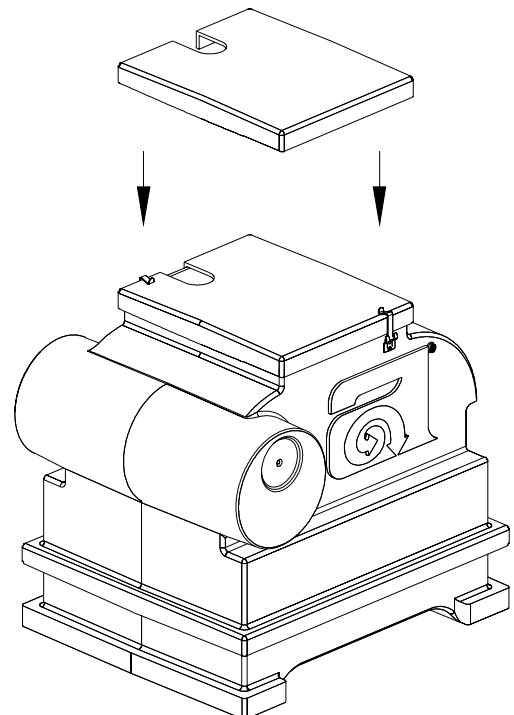

Figure 20G
- 5) Cut tank lid to fit around the $1\frac{1}{2}$ " water supply line connected to the pump. Make the cut to match the location of the pump. **See Figure 20G.**